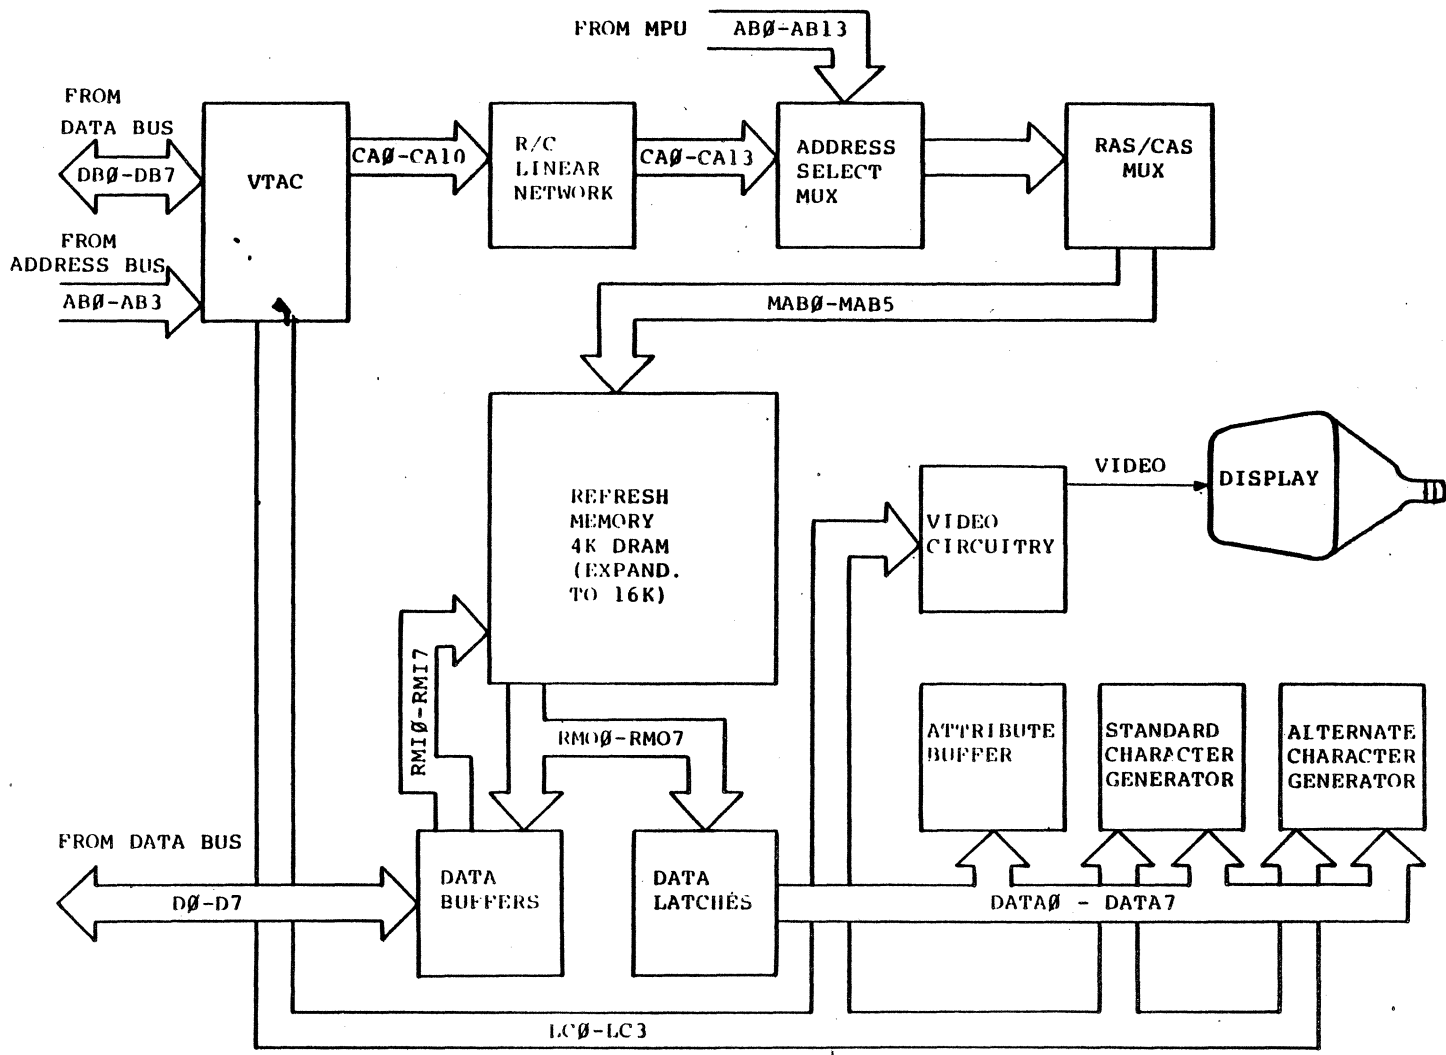

Figure 6-8. Video Control Section.
6.3.4 Video Display Section (Figure 6-8)